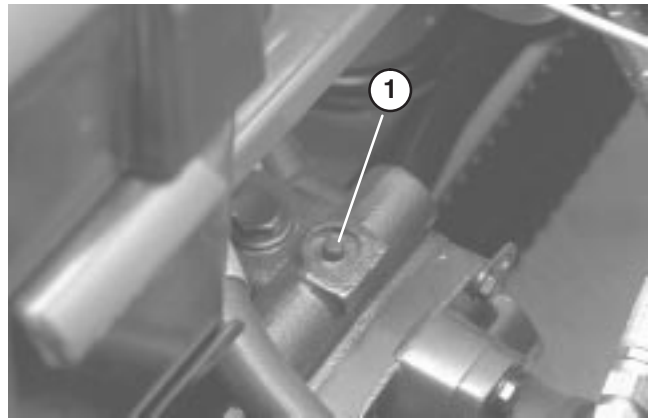

Figure 24
1. By-pass valve is located on top of variable displacement pump (Fig. 24). Rotate the valve 90°, in either direction, to open and allow oil to by-pass internally. Because fluid is by-passed, the machine can be moved – slowly – without damaging the transmission.